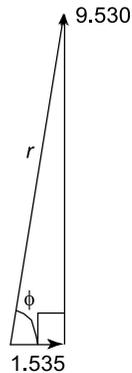

Figure 4.27
- (v) The components are shown sketched in Figure 4.27.